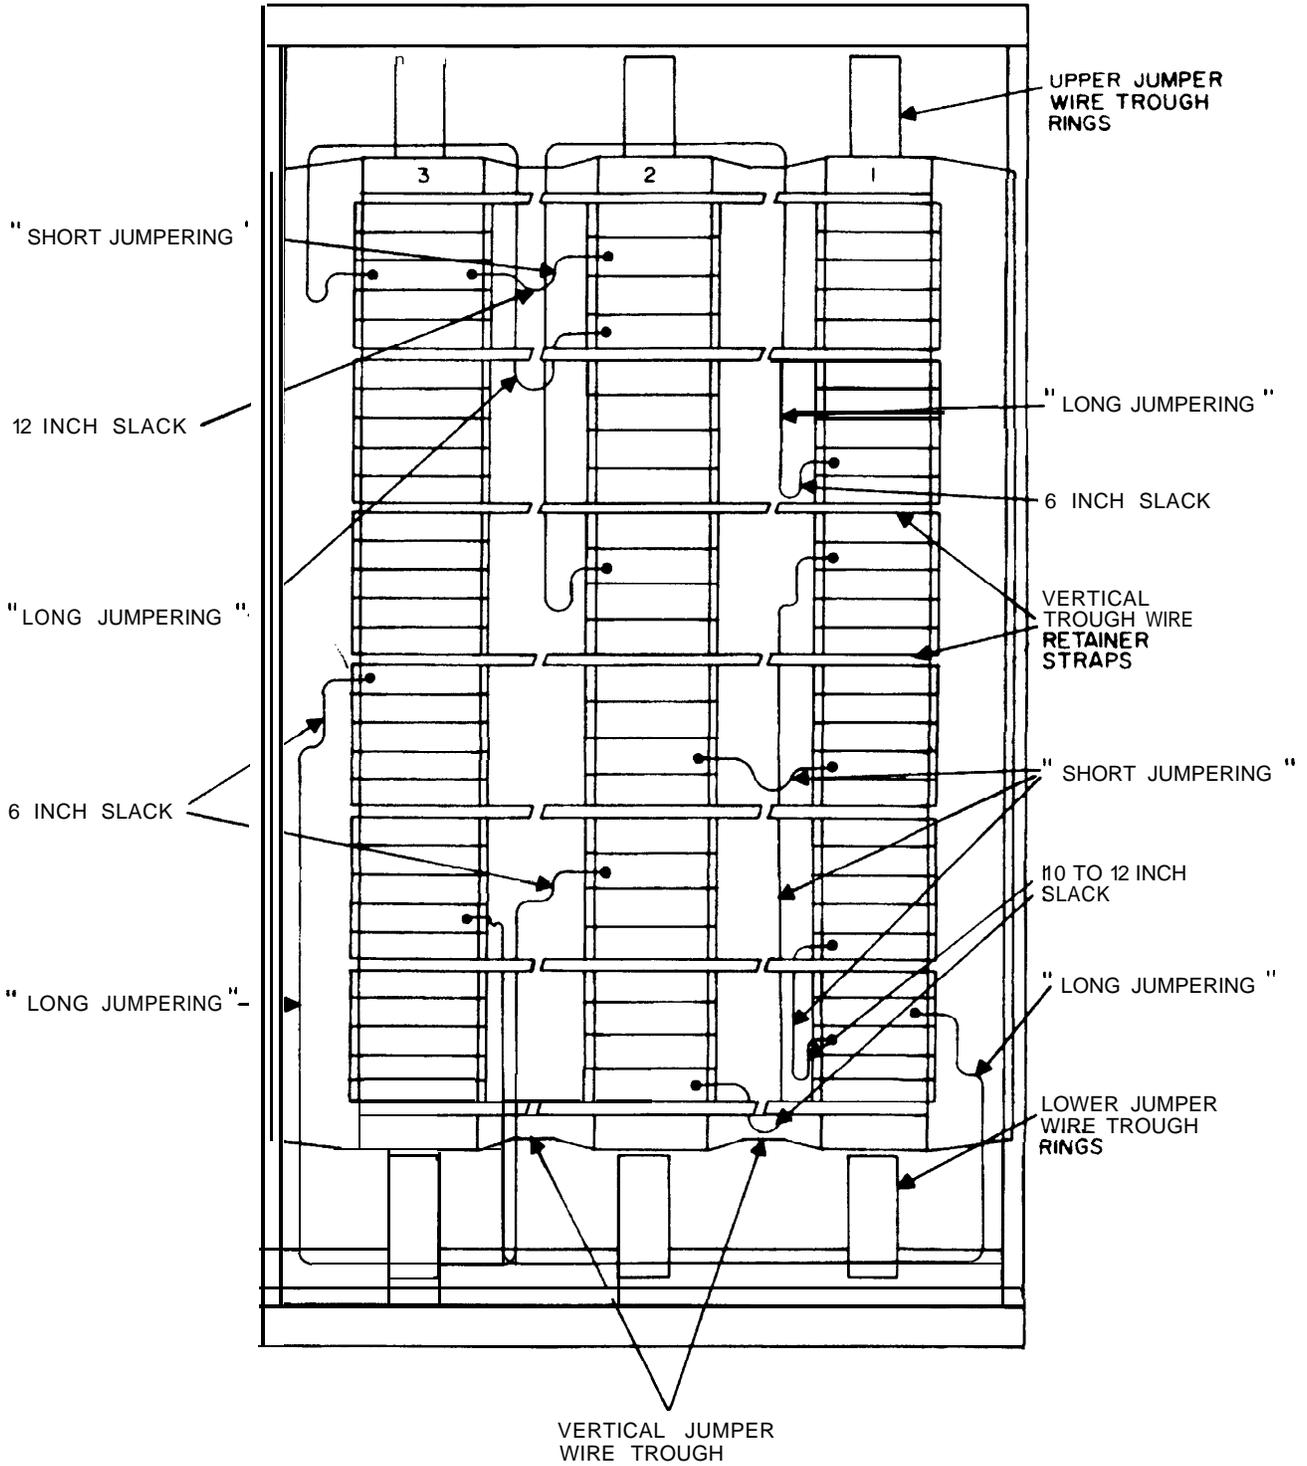

Figure 14. Typical Methods of Running Jumpers – “Long” and “Short”.
wire trough rings. See Figure 14 for an illustration of “short jumpering”. A short jumper is used when connecting terminals on adjacent verticals or between terminal blocks on the same vertical.
7.04 A “long jumper” is a connection where the jumper wire passes through either the upper or lower jumper wire trough rings. See Figure 14 for an illustration of “long jumpering”. Because of
7.06 Approximately 10 to 12 inches of slack is to be left in each “long jumper”. Distribute this slack evenly with approximately 6 inches of slack being left in the vertical trough prior to each termination (see Figure 14).